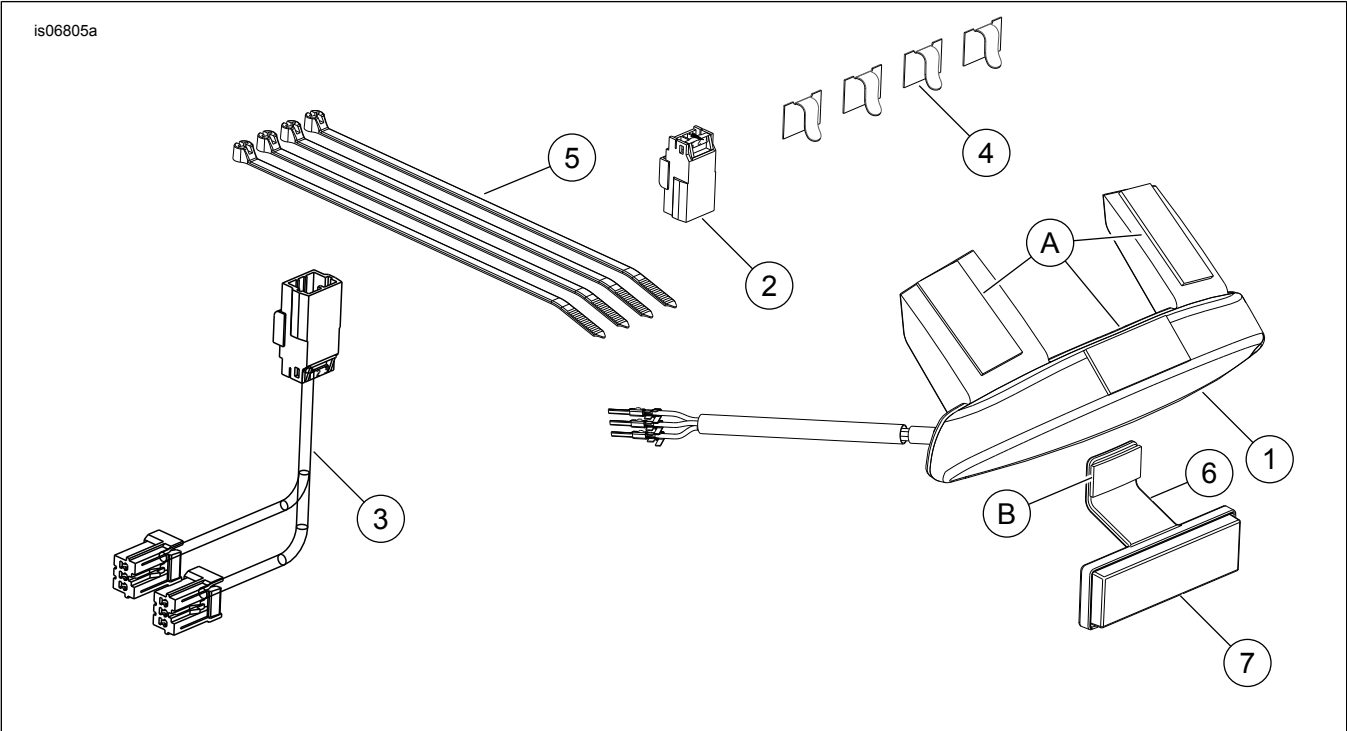

Figure 3. Service Parts: Fender Edge Light Kit
See Figure 3 and Table 1.
5. See Figure 3. Remove the protective liner (A) from the three adhesive pads on the fender edge light (1).
7. Remove the protective liner from the adhesive pad (B) of the reflector mount (6) and install the reflector to the center of the fender edge light. Press firmly in place for best adhesion.
2. Connect interconnect harness (3) to rear lighting harness connector [40B] and main wiring harness [40A].
4. See Figure 3. Insert the wires and terminals from the light assembly harness into the pin housing (2) from the kit:
6. Secure the interconnect harness in the seat pan area as necessary with cable straps (5).